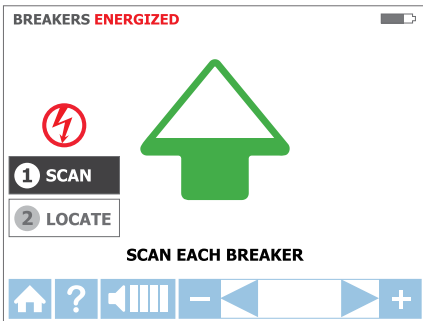

Figure 3.3c: SCAN mode – Scanning breakers/fuses
- 1. The unit will automatically start in 1 **SCAN** mode (Figure 3.3c).